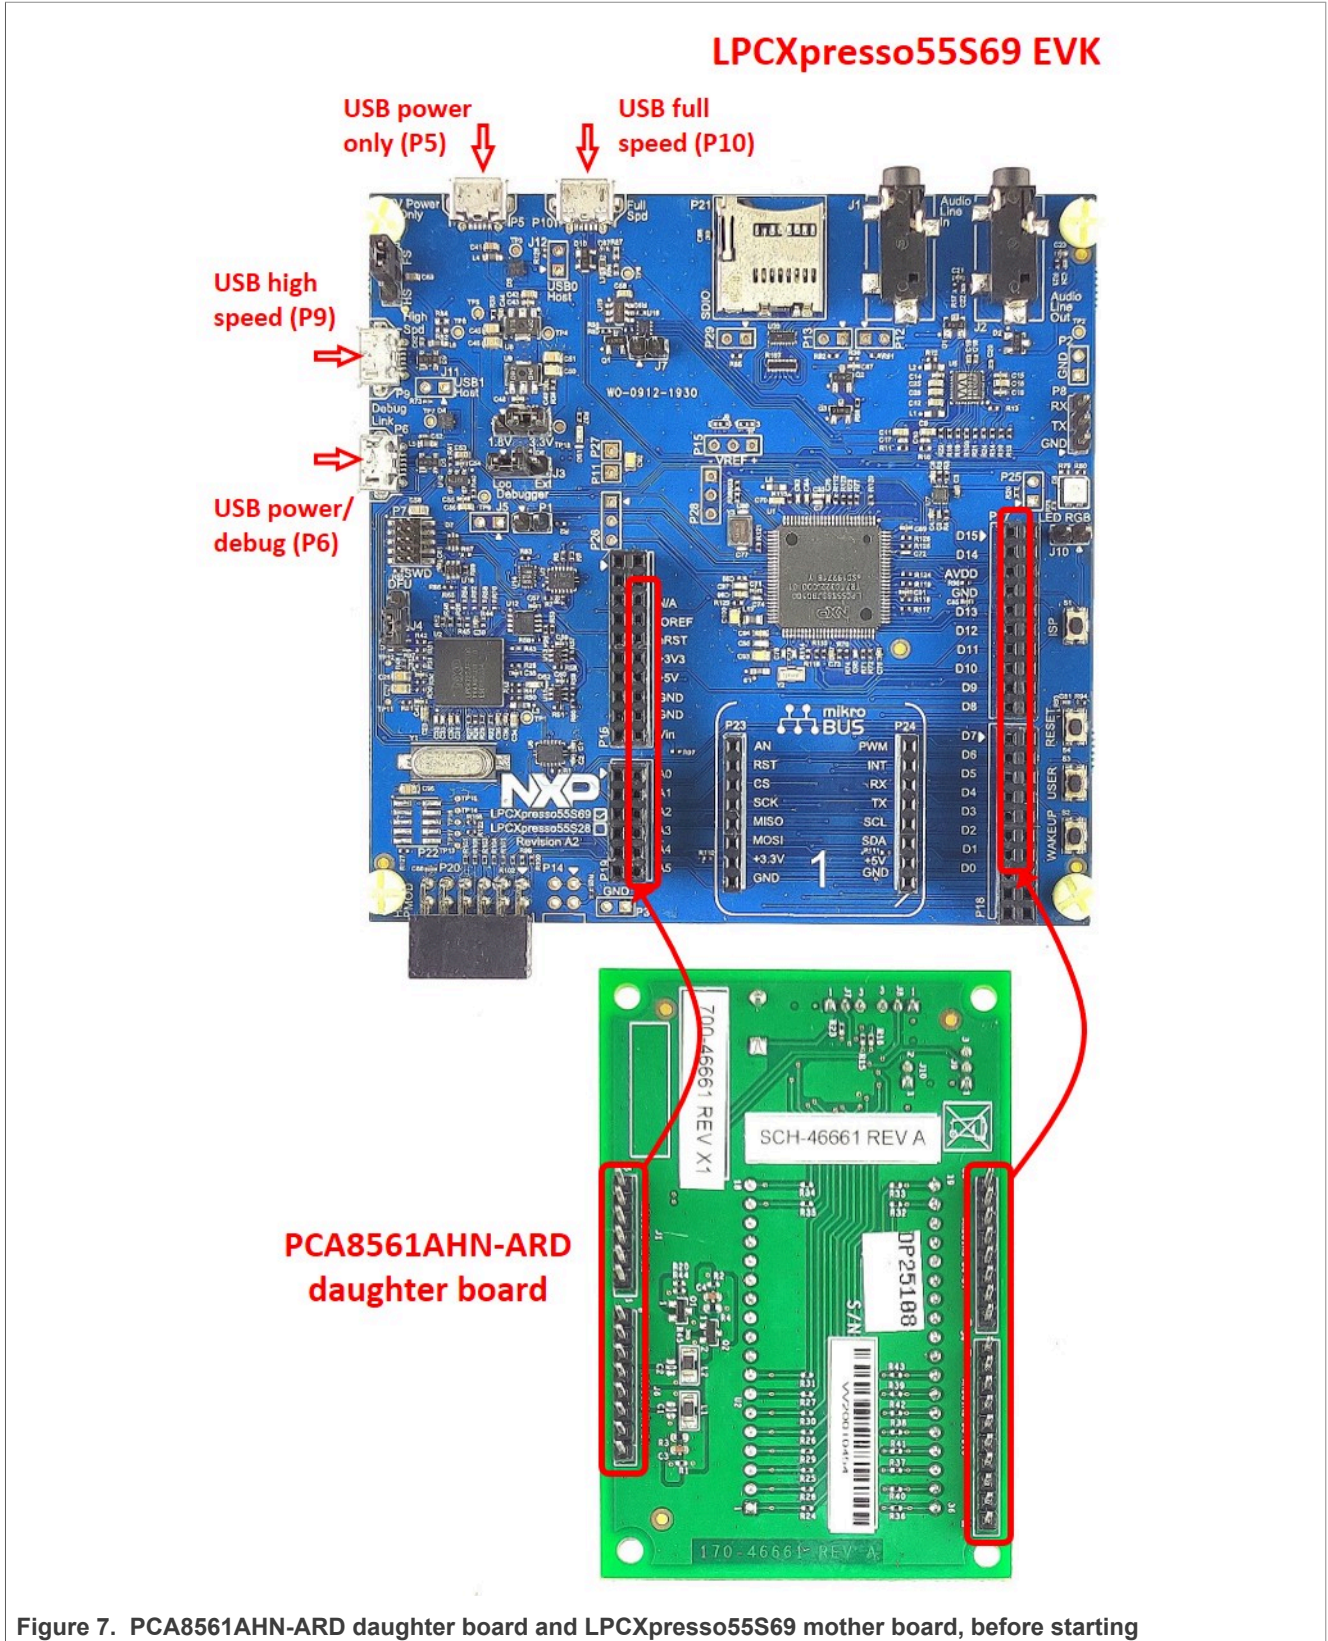

Figure 7. PCA8561AHN-ARD daughter board and LPCXpresso55S69 mother board, before starting
Figure 7 shows the required hardware for operation of the PCA8561AHN-ARD and LPCXpresso55S69 EVK board. This configuration consists of:
The following steps describe how to assemble, program, and operate the configuration shown in Figure 7.
1. Insert the PCA8561AHN-ARD daughter card to P16 – P19 connectors located on LPCXpresso55S69 development board (see the marked pins of P16 – P19, Figure 7)